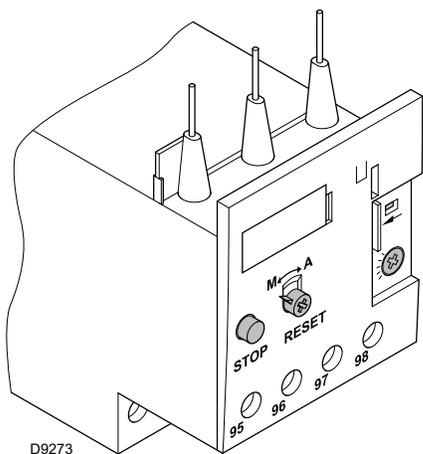

Fig. 24
The electro-mechanical terminal relay (Fig. 24) is used to avoid damage to the motor owing to a strong increase in absorption or the lack of a phase.
- To reset, in the case of an intervention of the thermal relay, press the button "RESET" (Fig. 24).
- The button "STOP" (Fig. 24) opens the NC (95-96) contact and stops the motor.